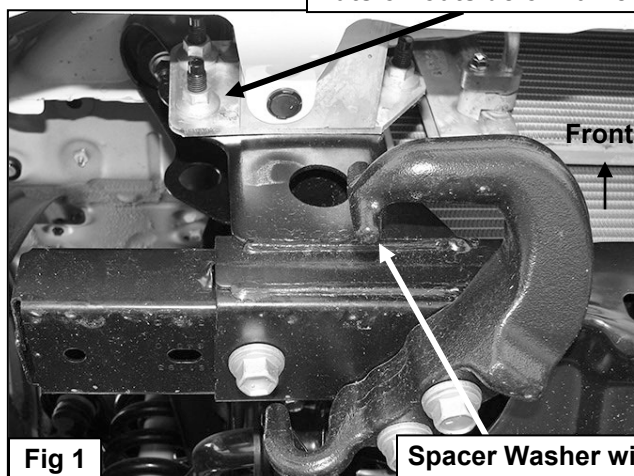

Fig 1
2. Start installation at the passenger side, front of the vehicle. Remove the (2) outer factory hex nuts attaching the bumper mount to the end of the frame, **(Figure 1)**. **NOTE:** It may be necessary to temporarily remove the factory tow hook from the passenger side.